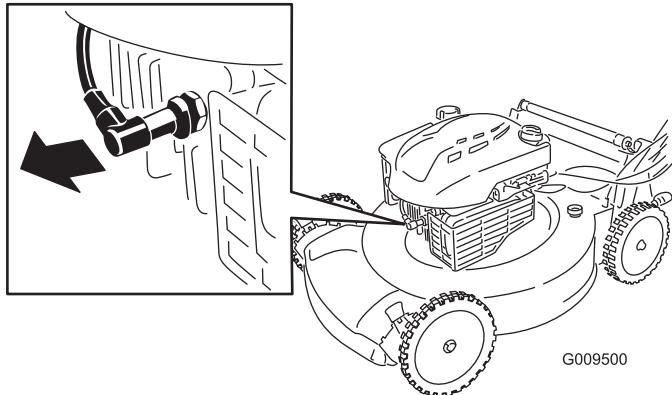

Figure 25
- Disconnect the spark-plug wire from the spark plug (Figure 25) before performing any maintenance procedure.